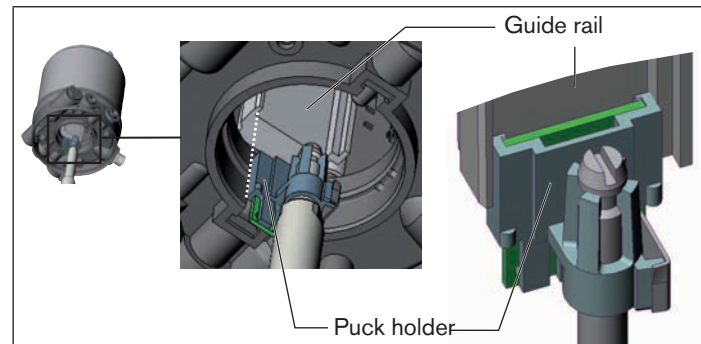

Fig. 5: Aligning the puck holder
1. the puck holder can be inserted into the guide rail of the control head (see "Fig. 5") and